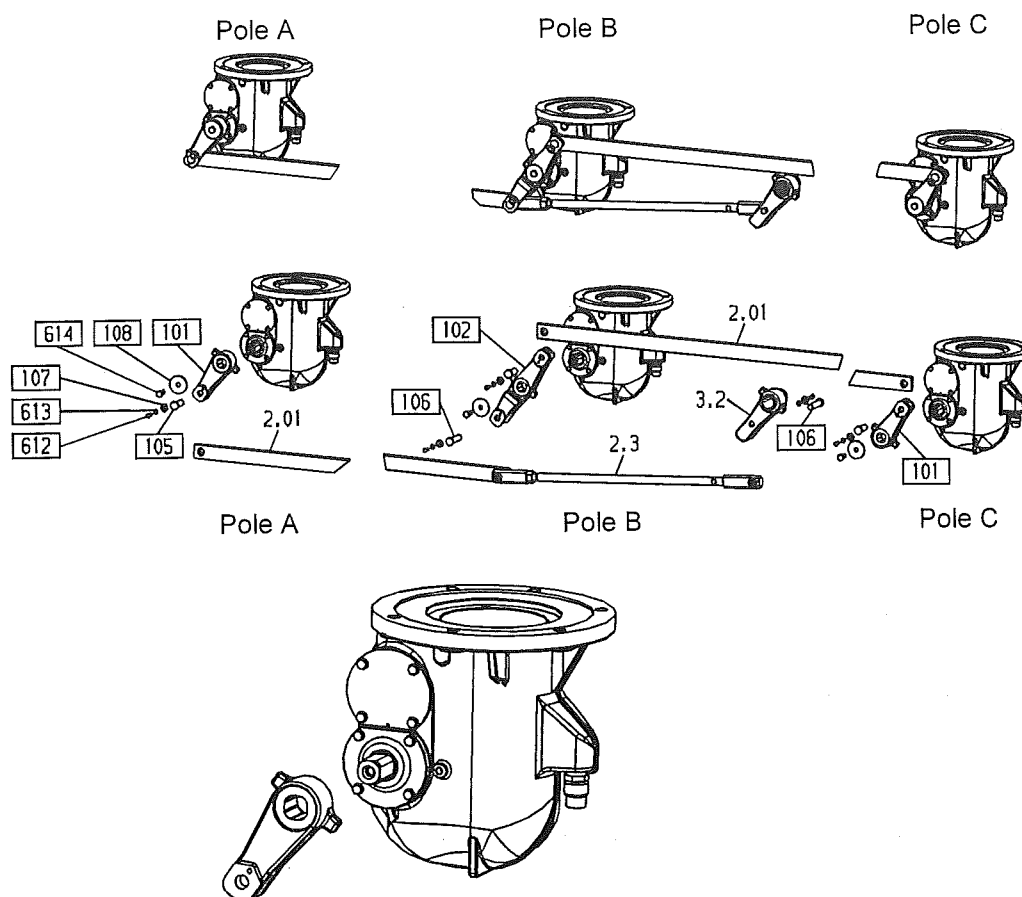

Figure A 5.4.3: Mounting the drive rod and the connecting rods
- Lubricate the coupling pin (16x68) [106] with Molykote BR2 plus (Figure A 5.4.3).
- Mount the lever [102] for pole column B and fasten it using a bolt [614] coated with locking adhesive and a washer [108]. Tighten the bolt [614] to a torque of 49 Nm (Figure A 5.4.3).